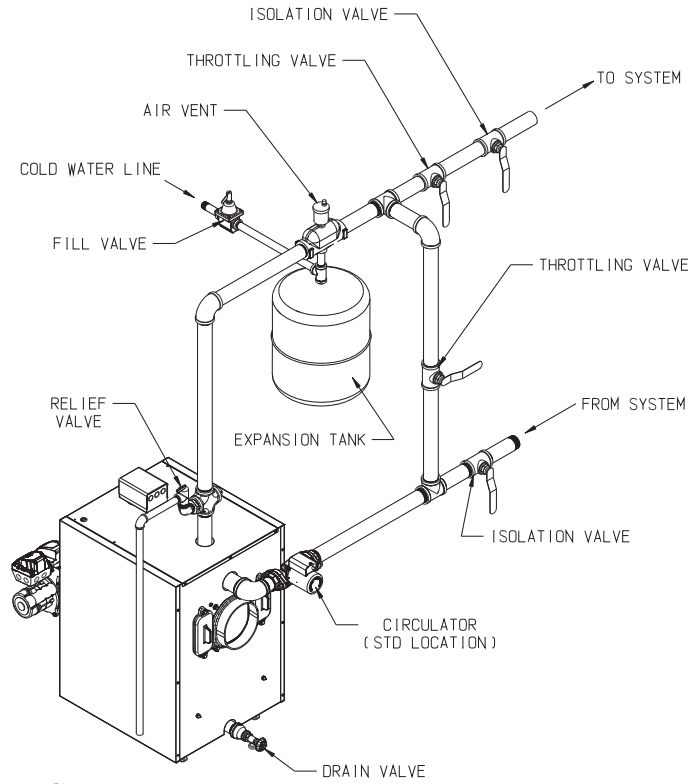

FIGURE 8.4: BYPASS PIPING
- 2) Large Water Volume Systems - The piping shown in Figure 8.4 will minimize the amount of time that the boiler operates with return temperatures below 135°F on these systems. A bypass is installed as shown to divert some supply water directly into the return water. The bypass pipe should be the same size as the supply. The two throttling valves shown are adjusted so that the return temperature rises above 135°F during the first few minutes of operation. A three-way valve can be substituted for the two throttling valves shown. A bypass can also be used to ensure that the minimum flow requirement in Table 8.0 is met.